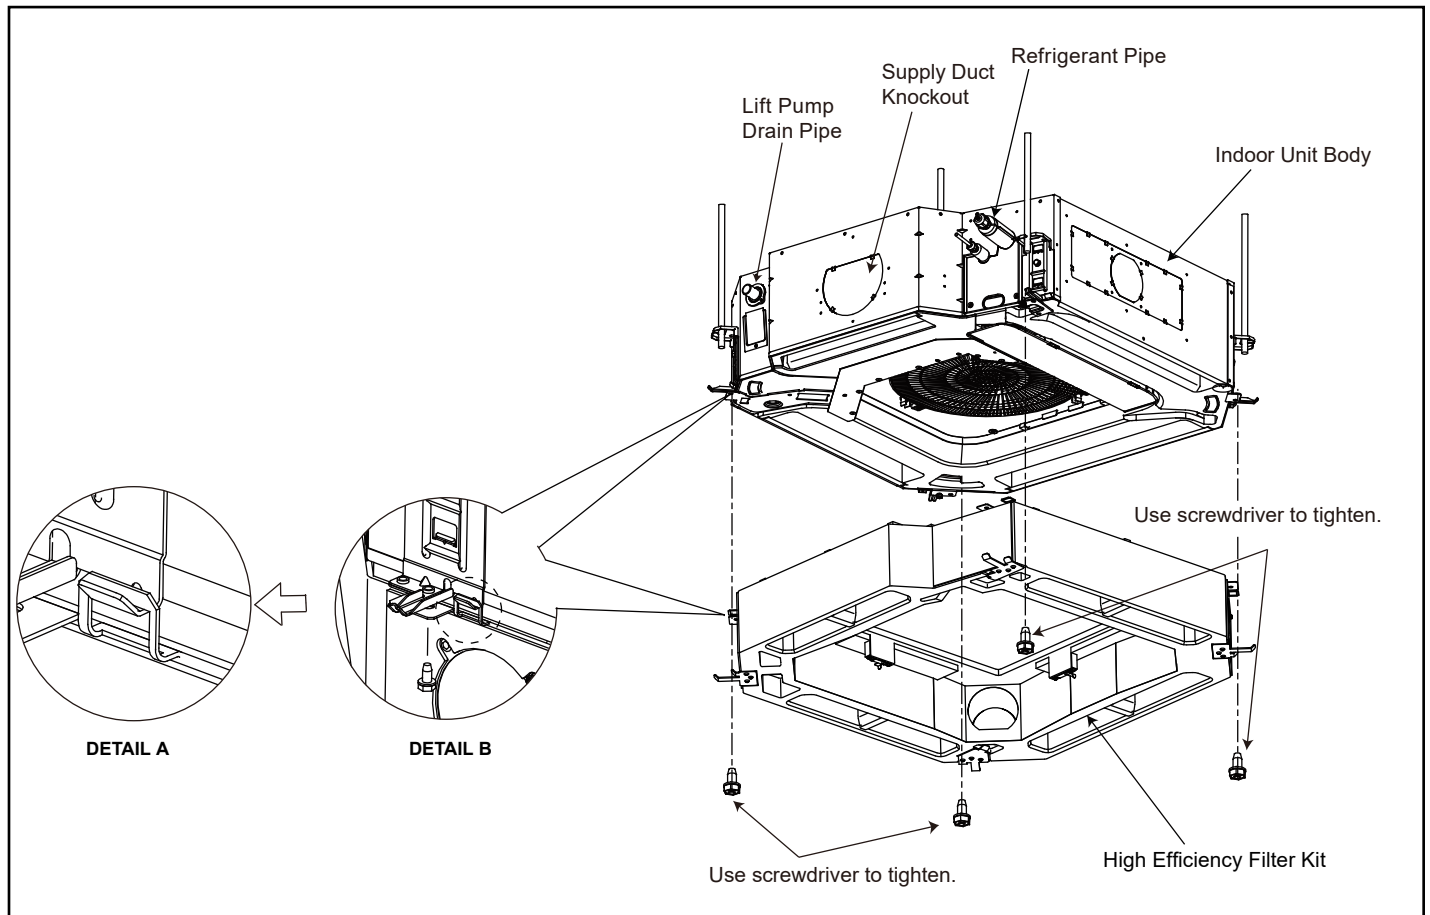

Figure 3. Attach High Efficiency Filter Kit to Cassette Body
4. Attach high efficiency filter kit to the unit body using the hangers on two corners of the accessory kit. Place these two hangers on the corresponding hooks on the corners of the cassette body. See detail A in Figure 3. Then, place the other hangers from the other two corners over their corresponding hooks on the cassette body as shown in detail B in Figure 3.